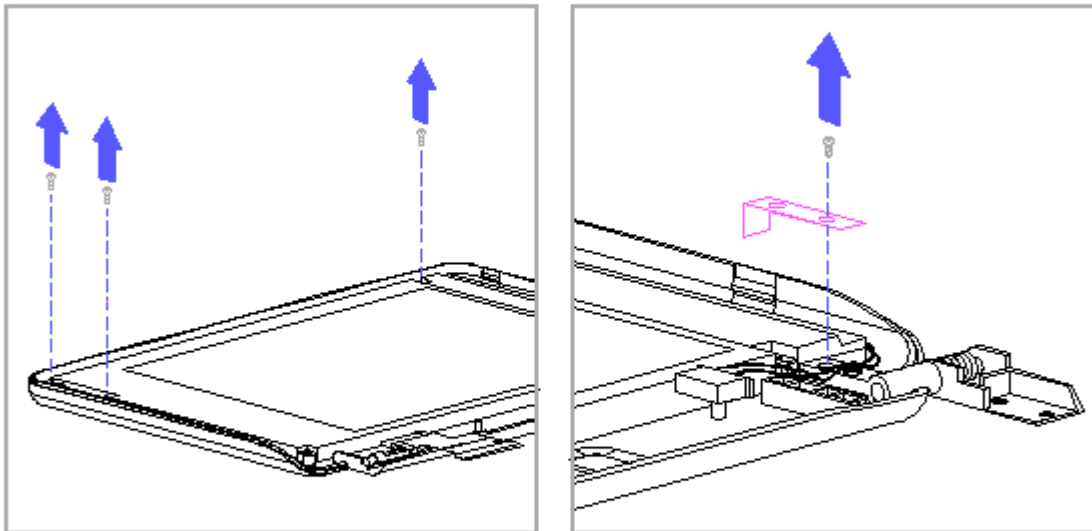

Figure 3-18. Removing Screws and Ground Clip Bracket from the LCD
2. Remove the remaining two top left screws and the one top right screw that secure the LCD panel to the display enclosure (Figure 3-18).
3. Remove the top clutch screw and ground clip bracket in the bottom right corner of the display enclosure (Figure 3-18).